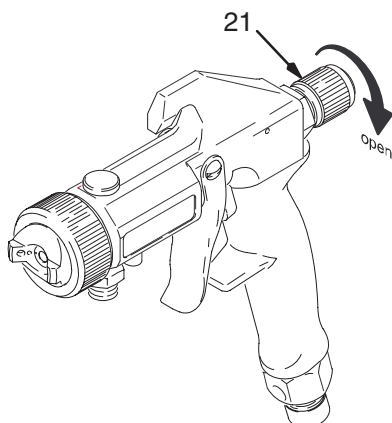

Fig. 6 8070A
1. Turn fluid adjustment knob (21) counterclockwise until no restriction of trigger movement is felt. See Fig. 6.